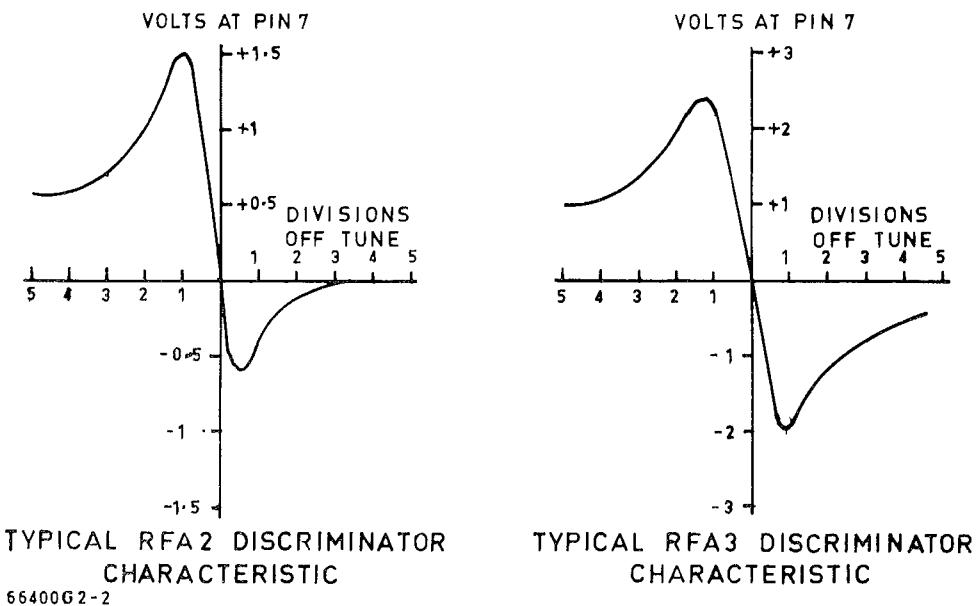

Figure 1
7. Check that when RFA2 is in tune, zero d.c. output voltage appears at pin 7 and that detuning to a higher dial reading gives a negative d.c. voltage and to a lower dial reading a positive d.c. voltage appears. (See figure 1 below for typical discriminator response characteristics.)